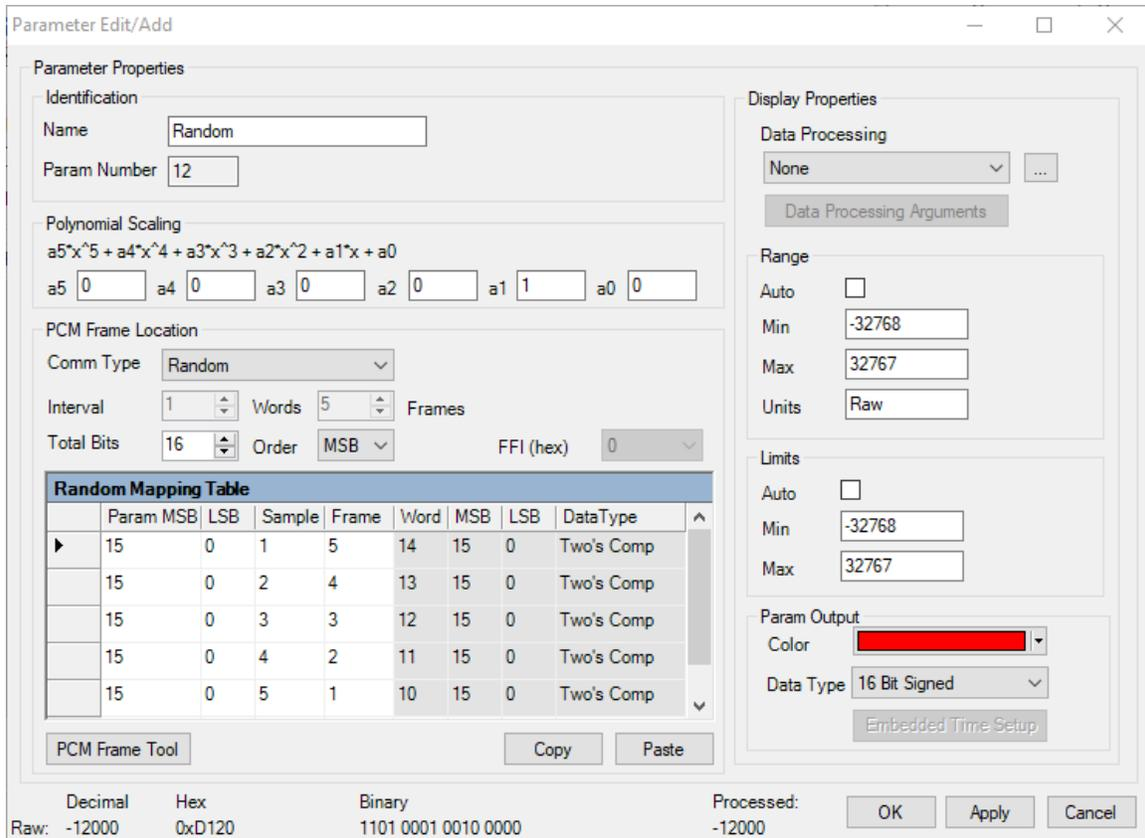

Figure 63 – Parameter Edit/Add Random Commutation
11. For a Random or Random Normal parameters, enter the random sample information into the Random Mapping Table (See **Figure 63 – Parameter Edit/Add Random Commutation**). The Copy and Paste buttons allow copying and pasting of the Random Mapping Table to Excel as a Tab delimited data. This option is useful for complicated decom parameters.